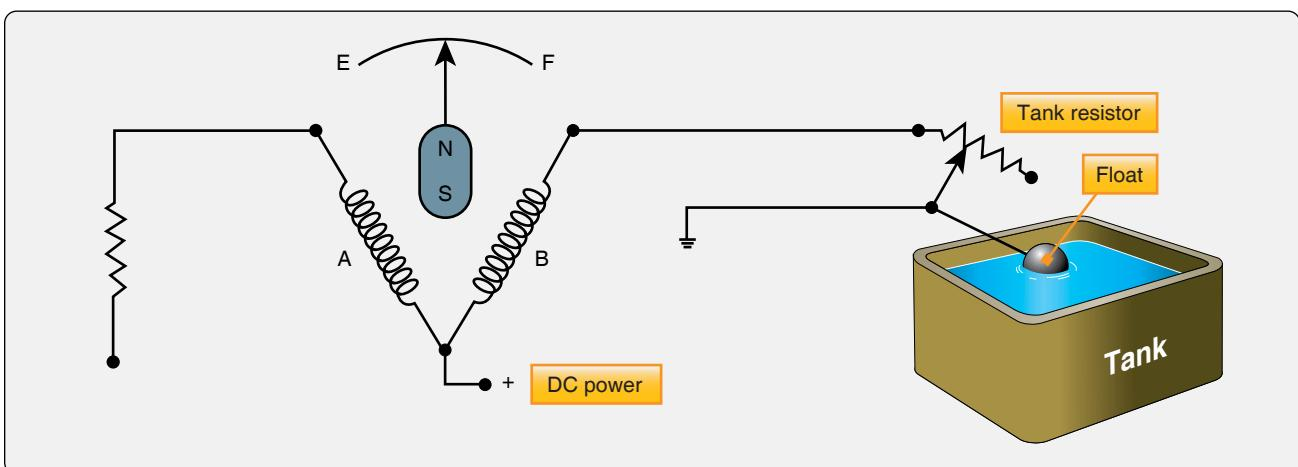

Figure 14-69. A DC electric fuel quantity indicator uses a variable resistor in the tank unit, which is moved by a float arm.
Electric fuel quantity indicators are more common than mechanical indicators in modern aircraft. Most of these units operate with direct current (DC) and use variable resistance in a circuit to drive a ratiometer-type indicator. The movement of a float in the tank moves a connecting arm to the wiper on a variable resistor in the tank unit. This resistor is wired in series with one of the coils of the ratiometer-type fuel gauge in the instrument panel. Changes to the current flowing through the tank unit resistor change the current flowing through one of the coils in the indicator. This alters the magnetic field in which the indicating pointer pivots. The calibrated dial indicates the corresponding fuel quantity. [Figure 14-69]